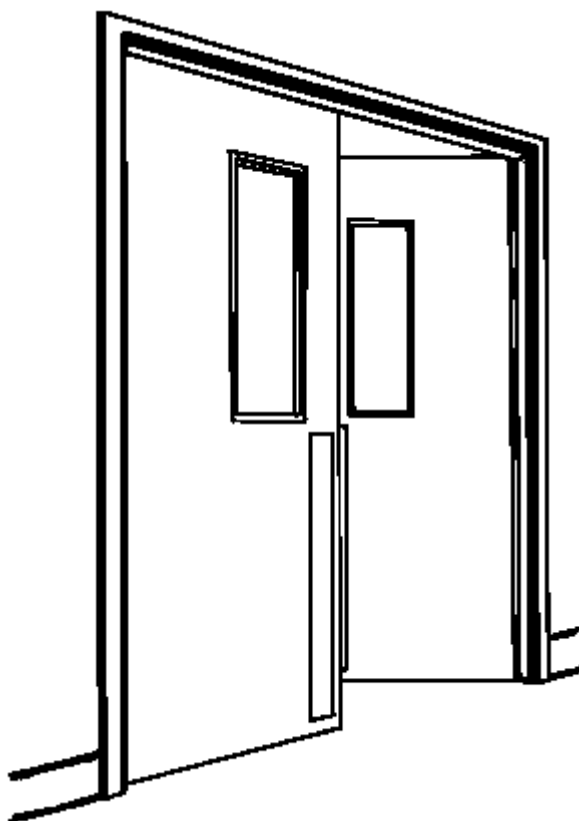

Figure 6: Vertical buffer rails fitted to protect door edges
- 4.15 Resilient plastic buffer rails mounted vertically at door edges and full-height pull handles can often reduce damage. In severe cases, stainless steel channel facings to door edges may be required (see Figure 6).